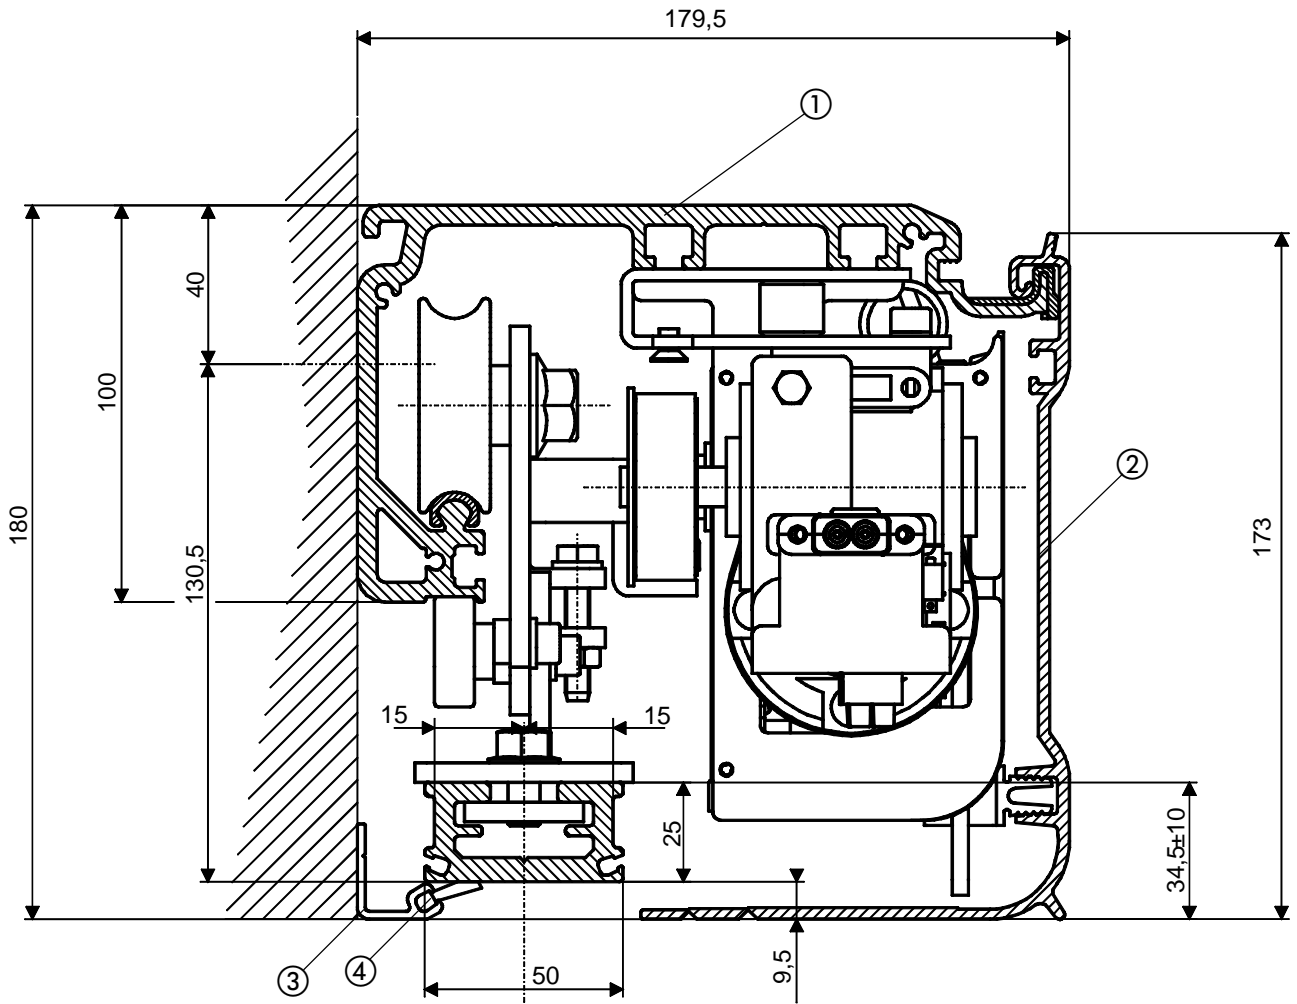

Fig. 2
Perfil SM (fig.2 ref. ①)
Cárter frontal (fig. 2 ref. ②)
Perfil de cierre (fig. 2 ref. ③)
Cepillo para perfiles de cierre (fig. 2 ref. ④)